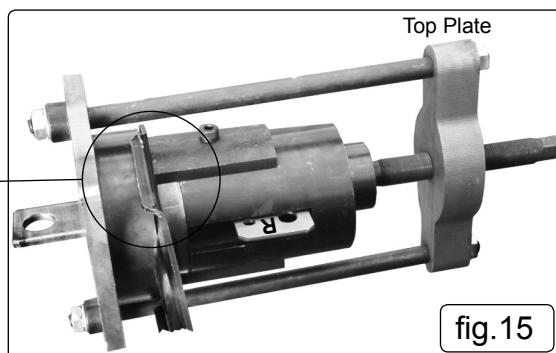
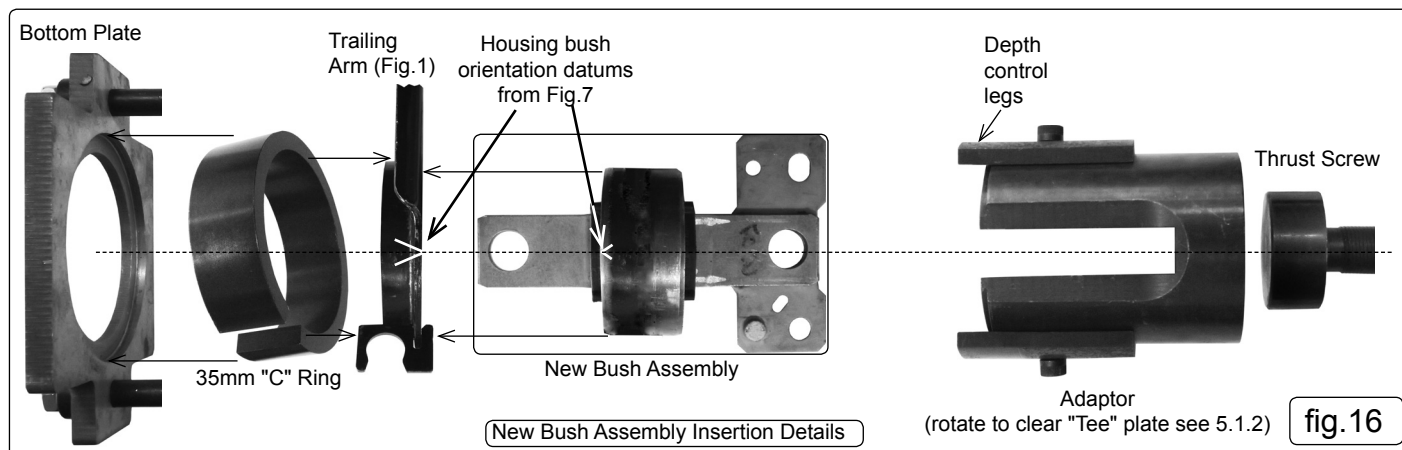

fig.15
fig.16
6.1.3. Place the 35mm 'C' ring on to the trailing arm (Fig.16), rotate the ring to clear the handbrake bracket. The four integral permanent magnets will hold the ring in place.
- 6.1.4. Two people are now recommended, with one placing the adaptor and bush in (Fig.14) over the housing bore. See the orientation datums for correct alignment (Fig.7). The second person can offer the press frame over the entire group of items shown in (Fig.16) ensuring the bottom plate locates over the "C" ring. The second person can now wind in the thrust screw ensuring concentricity and squareness of both the press and the adaptor. With a 16mm socket increase the torque and observe the bush sleeve progress through to correct depth insertion. **DO NOT EXCEED 180NM, IF THIS OCCURS, STOP IMMEDIATELY AND CHECK ALIGNMENTS.** Observe closely the depth control legs, when they touch the trailing arm face resistance will increase abruptly, the bush is now fully inserted, see (Fig.15) telescopic view. **DO NOT** attempt to tighten any further.